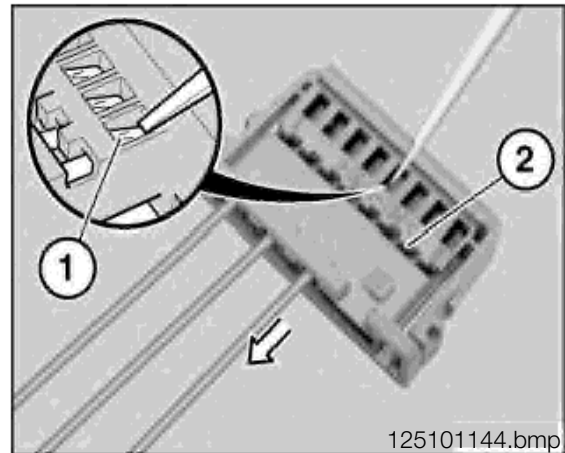

Fig. 17/1
- Hold down retaining hook (1) of socket contact carrier with a small screwdriver.
- Pull wire with socket contact in direction of arrow as far as secondary lock (2). (Fig. 17/1)
- Hold down retaining hook in secondary lock (1) again and pull cable with socket contact (2) completely out of contact carrier (3). (Fig. 17/2)